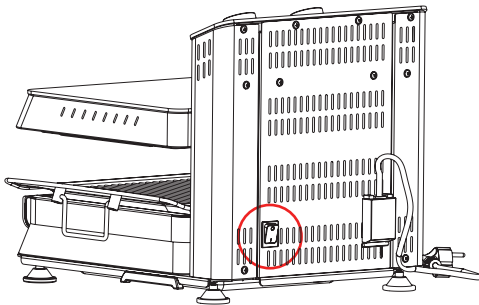
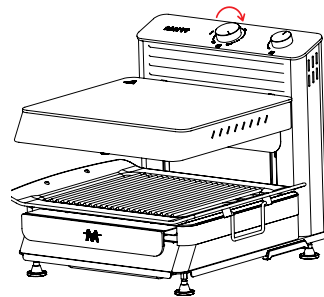

Figure 15
Figure 16
- If the product does not work when you plug it in, make sure that the on/off switch is in position (I).
- If the on/off switch is in position (I) (Figure 15), increase the power control button (Figure 16). If the product still does not work, make sure that the movable tray bed is seated in the product.